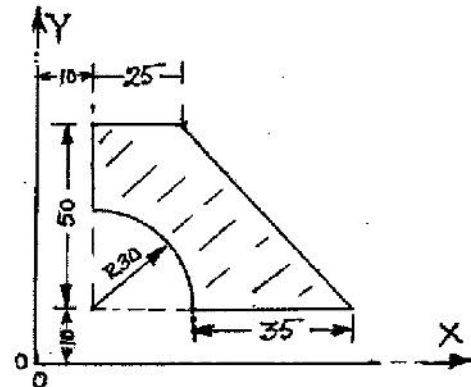

Fig. 4
13. Write a program in APT language for milling the edges of a job shown in fig. 4 using a CNC milling machine using an end mill cutter. 10